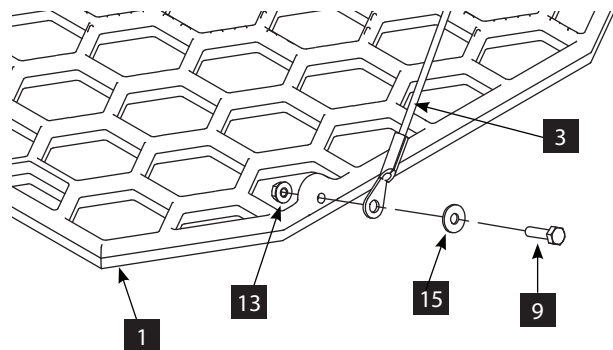

FIGURE 2
2. Attach cables (3) onto platform (1) using two 1/4-20 x 1 IN bolts (9), 1/4-20 locknuts (13) and 1/4-20 steel washers (15). **SEE FIGURE 2.**